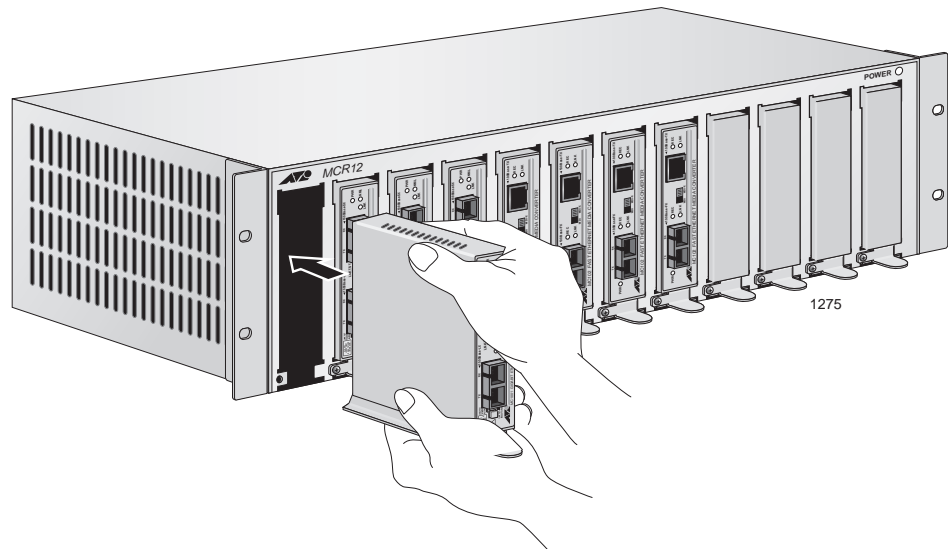

Figure 8. Installing the Media Converter with Mounting Rail in the Chassis
4. While you hold the mounting rail onto the media converter, turn it over so that the mounting rail is on the bottom and slide the assembly into the chassis, as shown in Figure 8.